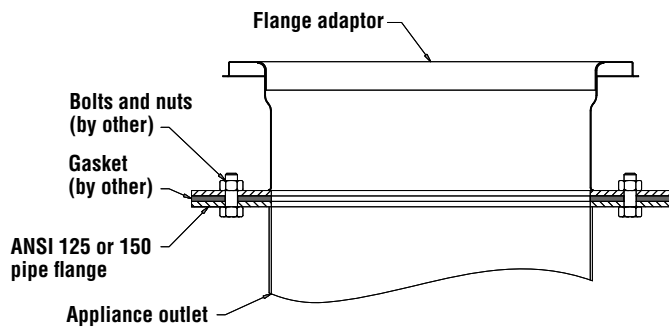

Figure 42 - ANSI flange adaptor (FA illustrated)
1. The Flange Adaptor (FA) is intended for use as a connection to a class 125 or 150 ANSI pipe flange.
2. This type of connection requires a flange gasket and bolt set provided by the installer. The gasket and bolts are typically sold by pipe, valve and fittings houses as 'NBG' set. **Figure 42** illustrates a typical installation.